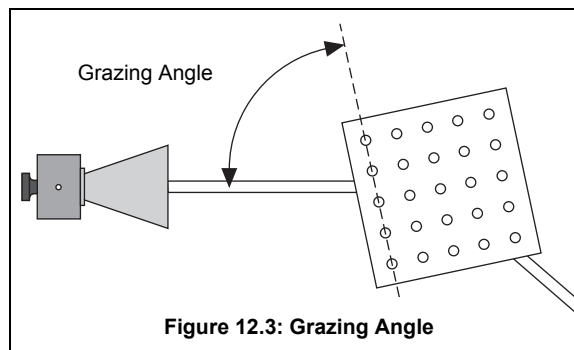

Figure 12.3: Grazing Angle
3. Rotate the crystal (with the rotating table) one degree clockwise and the Rotatable Goniometer arm two degrees clockwise. Record the grazing angle of the incident beam and the meter reading. (The grazing angle is the complement of the angle of incidence. It is measured with respect to the plane under investigation, NOT the face of the cube; see Figure 12.3.)